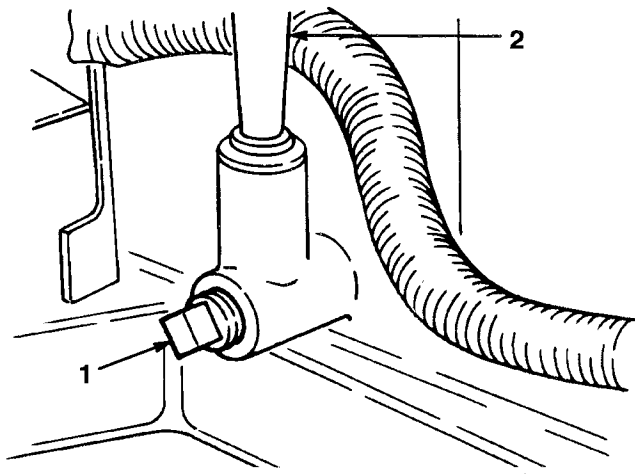

Figure 33
4. Place a pan below the oil dipstick/fill tube and remove the drain plug (Fig. 33).